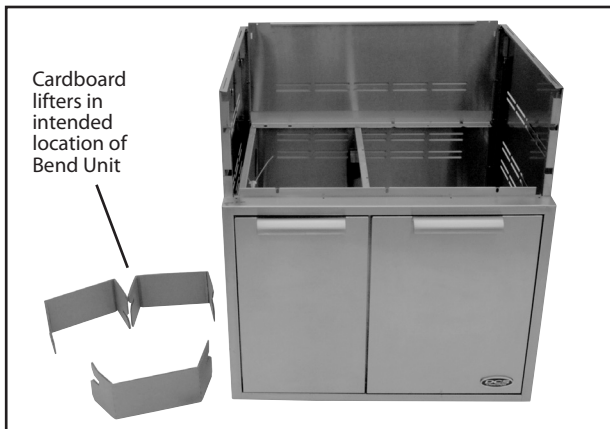

Fig. 08
2. Place the three cardboard lifters from the packaging on the ground next to the cart in the approximate position of the Bend Unit (Fig. 08).